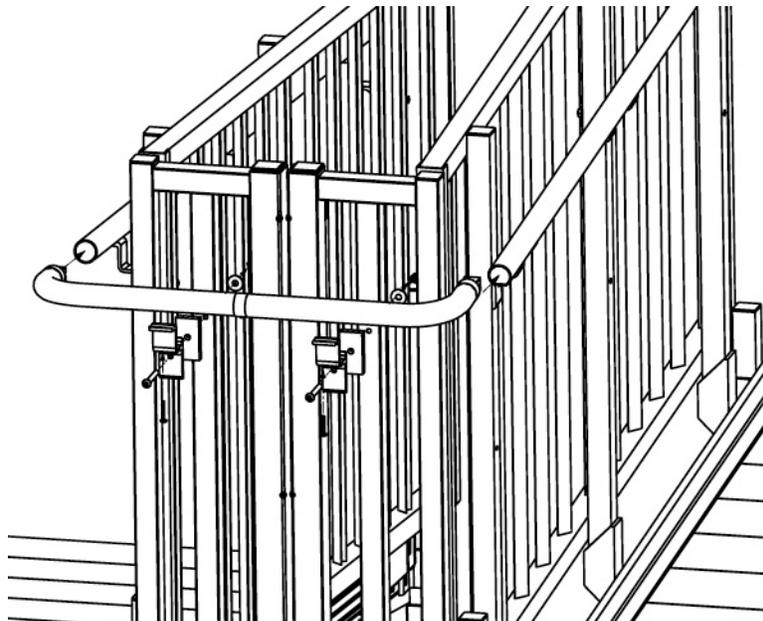

**FIG. 36**
- 8.5 At a turn platform at top of system on inside turn side (FIG. 36):